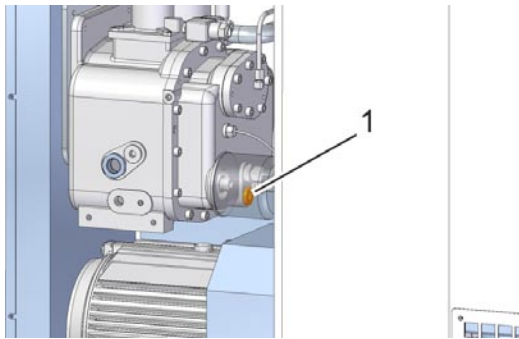

Fig. 31: Oil drain
4. Carefully open the oil drain (Fig. 31/1) and check the liquid being drained.
6. Close the oil drain (Fig. 31/1).